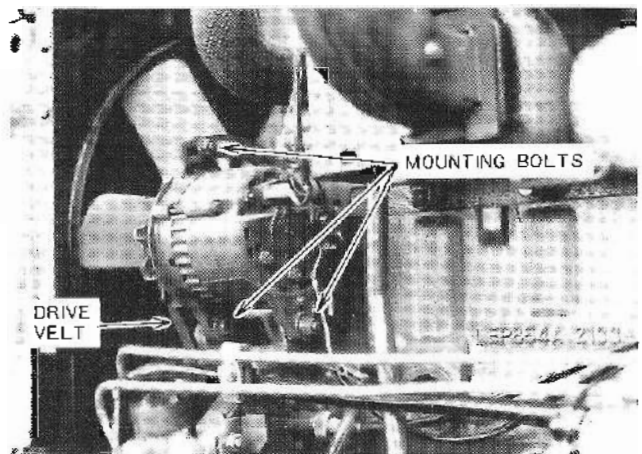

Figure 55 – Alternator Mounting Bolts
1. Loosen the alternator mounting bolts, Figure 55.